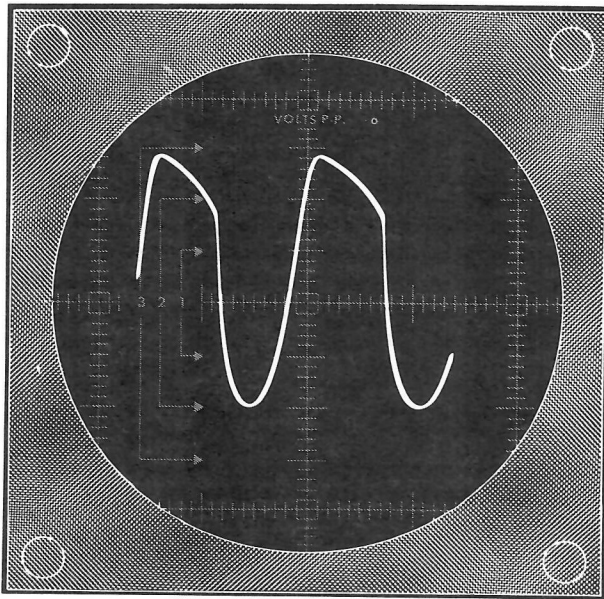

Figure 3-36
You should observe the following: (1) As the intensity of the sound increases, the amplitude increases on the screen. (2) As the sound changes, there will be a corresponding change in the shape of the curve such as in Figure 3-36. This is a distorted sound wave. You may also note a slight change in frequency in doing this part of the experiment.